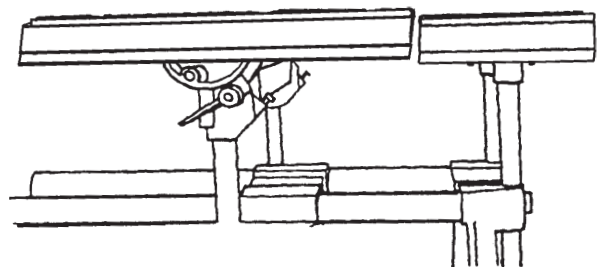

Figure B-100
70. The worktable should already be mounted in the carriage mount. Move the worktable next to the extension table and adjust it to about 1/4" above the extension table, as seen in Figure B-100.